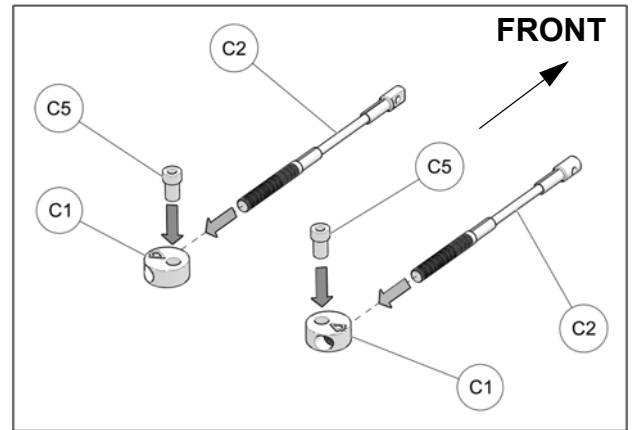

Fig. 22
- Assemble steering limiter cables (C2), aluminum disks (C1) and step spacers (C5) together as shown on Fig. 22